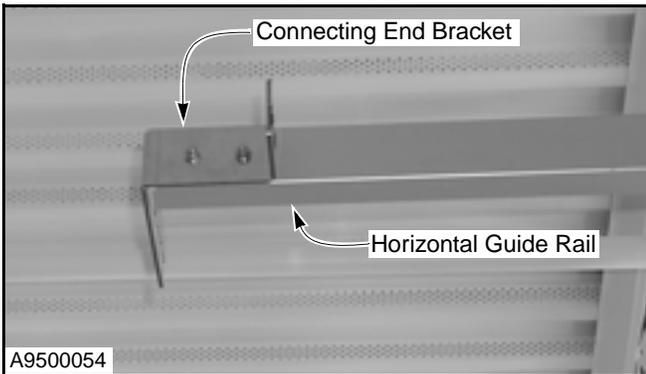

Figure 51
5. Install the connecting end bracket to both horizontal guide rails. (See Figure 51.)